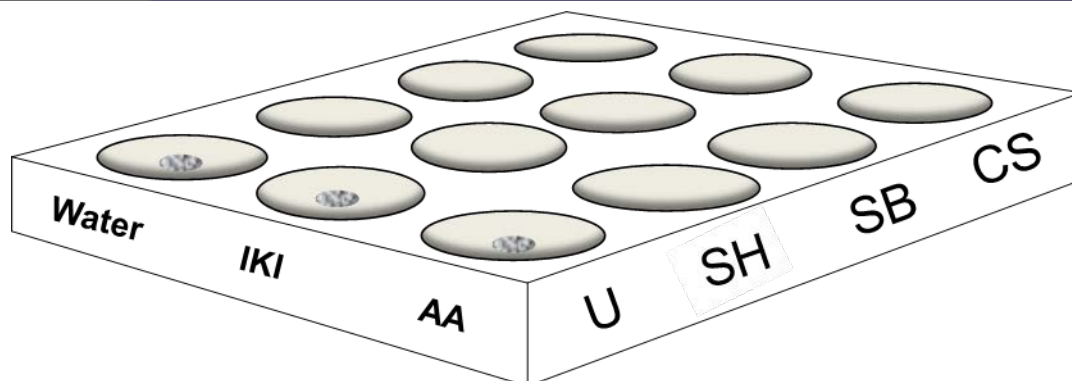

Figure 6: Step 5 reference. The white circles represent a scoop of the unknown sample in each of the three wells lined up with the **U** label.
5. Use a wooden scoop to transfer a small amount of the unknown sample into the three wells that are in line with the **U** label (Figure 6).